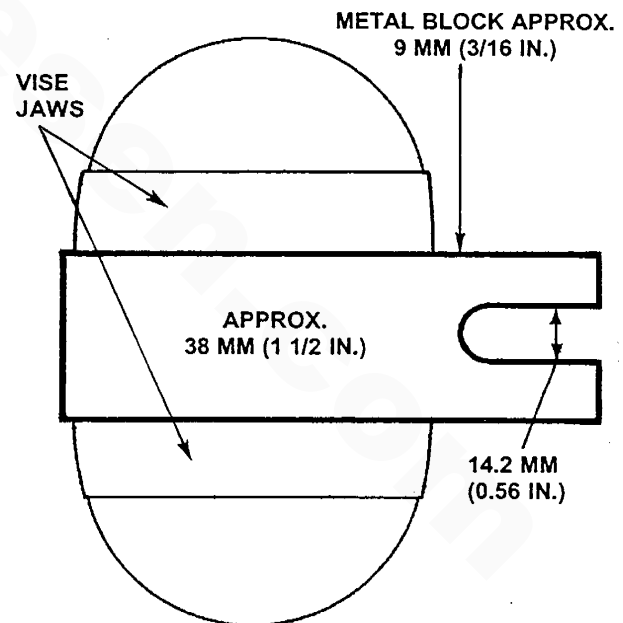

FIGURE 12. PINION STOP SUPPORT BLOCK
1. The drive shaft support (17) to the drive shaft (15), seating the bearing (10) in the support.
2. The clutch drive assembly (2) to the drive shaft (15).
3. A new pinion stop (12) onto the drive shaft (15), the end with the recess for the stop rings (35) up.
- a. Install the stop rings (35) in the groove in the drive shaft (15).
- b. Pick up and support the assembly under the pinion stop (12). A metal block, with a U-shaped cutout that will slide over the shaft between the pinion gear and the stop, can be clamped in a vise to provide support (see Figure 12).
- c. Make sure the stop rings (35) (in the drive shaft groove) are fully seated in the pinion stop recess and stake the upper edge of the pinion stop (12) over the stop ring (35) at four places, equally spaced. Do not allow staked metal to contact the drive shaft (15).